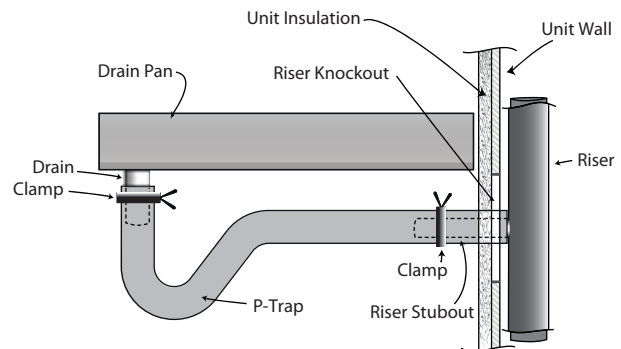

Figure 9
9. Locate the p-trap drain and rubber hose factory installed to the drain pan connection in the bottom of the unit as shown in Figure 9.
11. Adjust the hose clamp over the riser stubout and rubber hose to hold in place as shown in Figure 9.